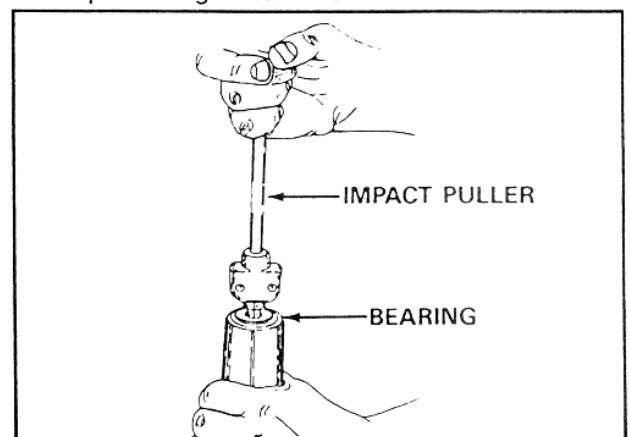
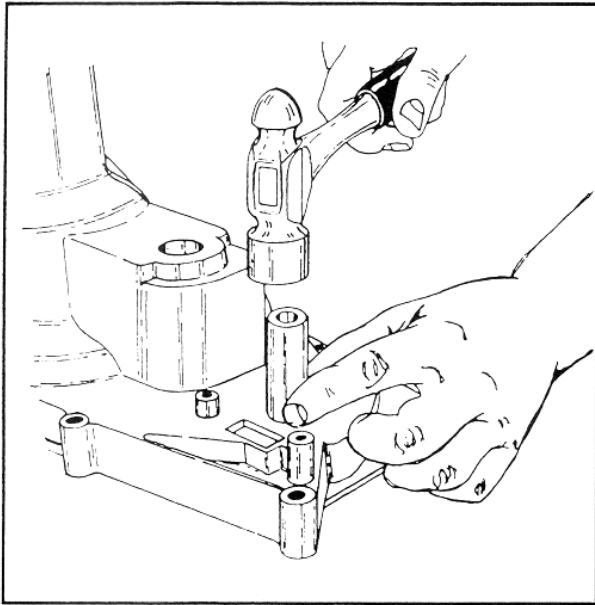

FIGURE 14
FIGURE 15
- 7.02 Remove damaged bearings from housing using an impact puller (figure 14) or tapping bearings out using the correct diameter rod as shown in figure 15.